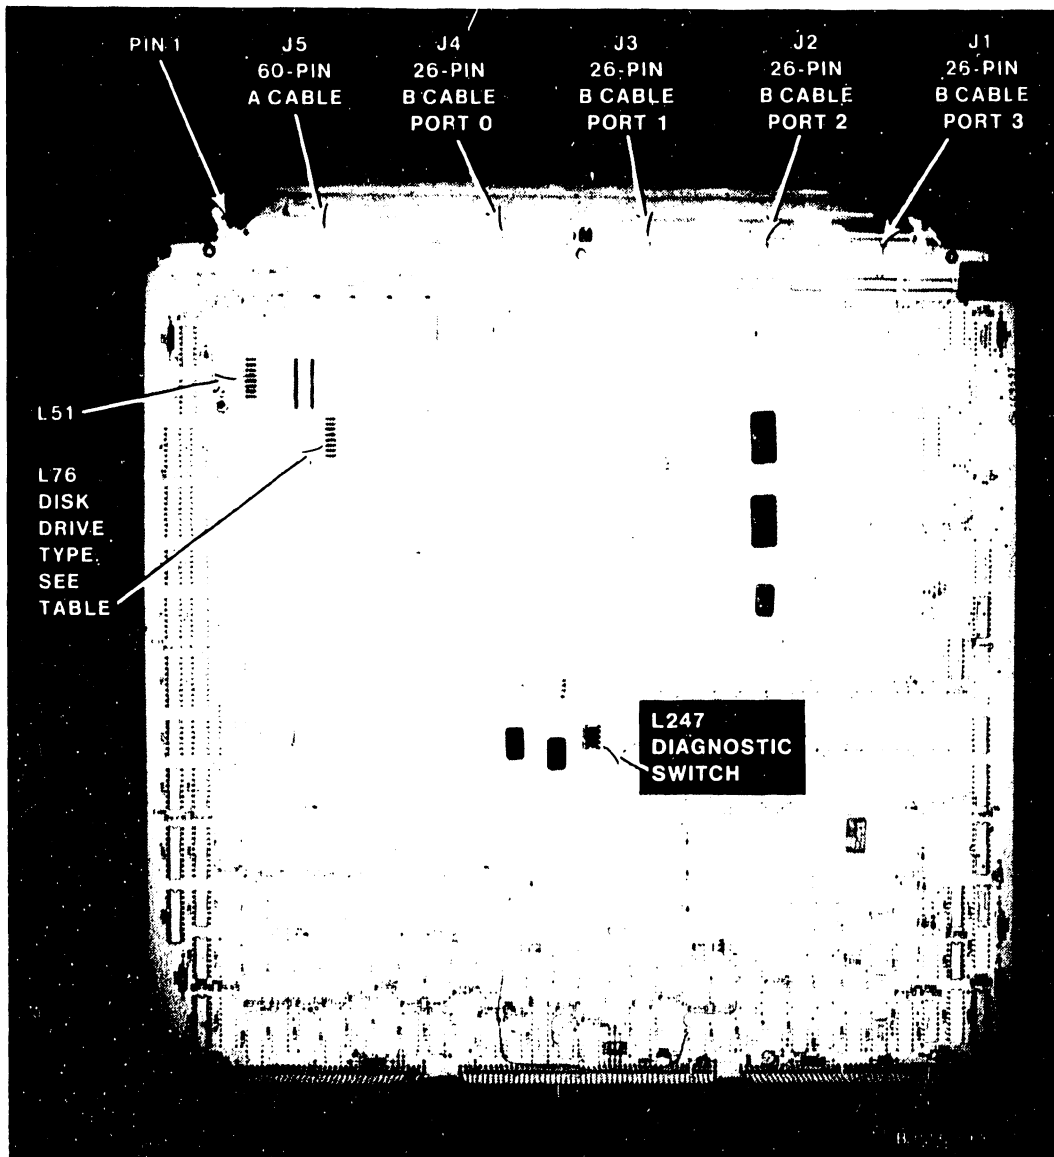

Figure 7-31. 23V98 Disk Drive IOC
1. Disconnect all cables from the top of the 23V98 Disk Drive IOC (figure 7-31). Note the position of all cables for later reassembly.
3. Check the device type switches (figures 7-31 and 7-32, and table 7-5). The two 8-position disk device type switches, SW1 (L76) and SW2 (L51), define the type of drive connected to the 23V98 IOC, ports 0-3. Set the switches for the type of drive(s) connected to the IOC.